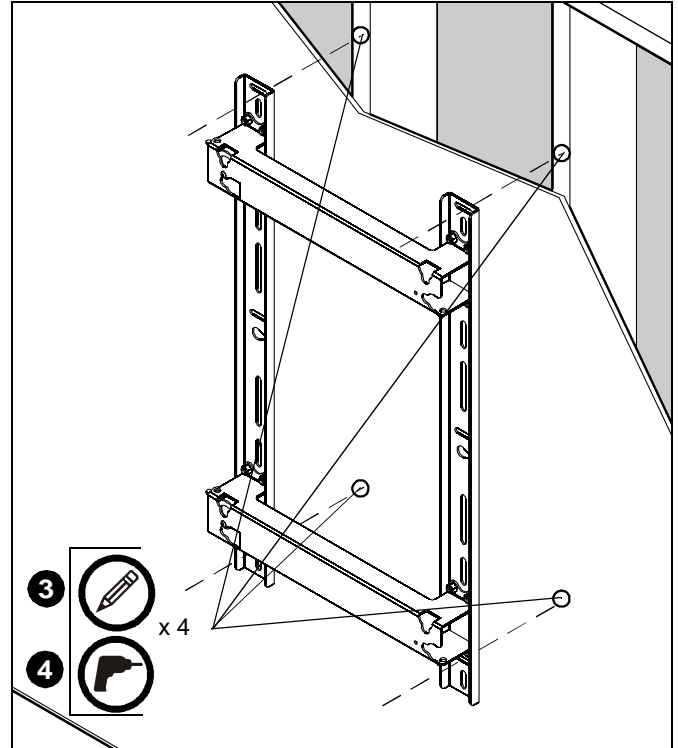

Figure 14
1. Place wall mount (A) against wall in desired installation location. (See Figure 14)
2. Level and adjust horizontal position making certain horizontal slots on the vertical brackets are properly positioned over studs. (See Figure 14)
3. Using a pencil or similar marking tool, mark the location of mounting holes in vertical brackets onto surface. (See Figure 14)
4. Drill four 7/32" pilot holes at marked locations. (See Figure 14)